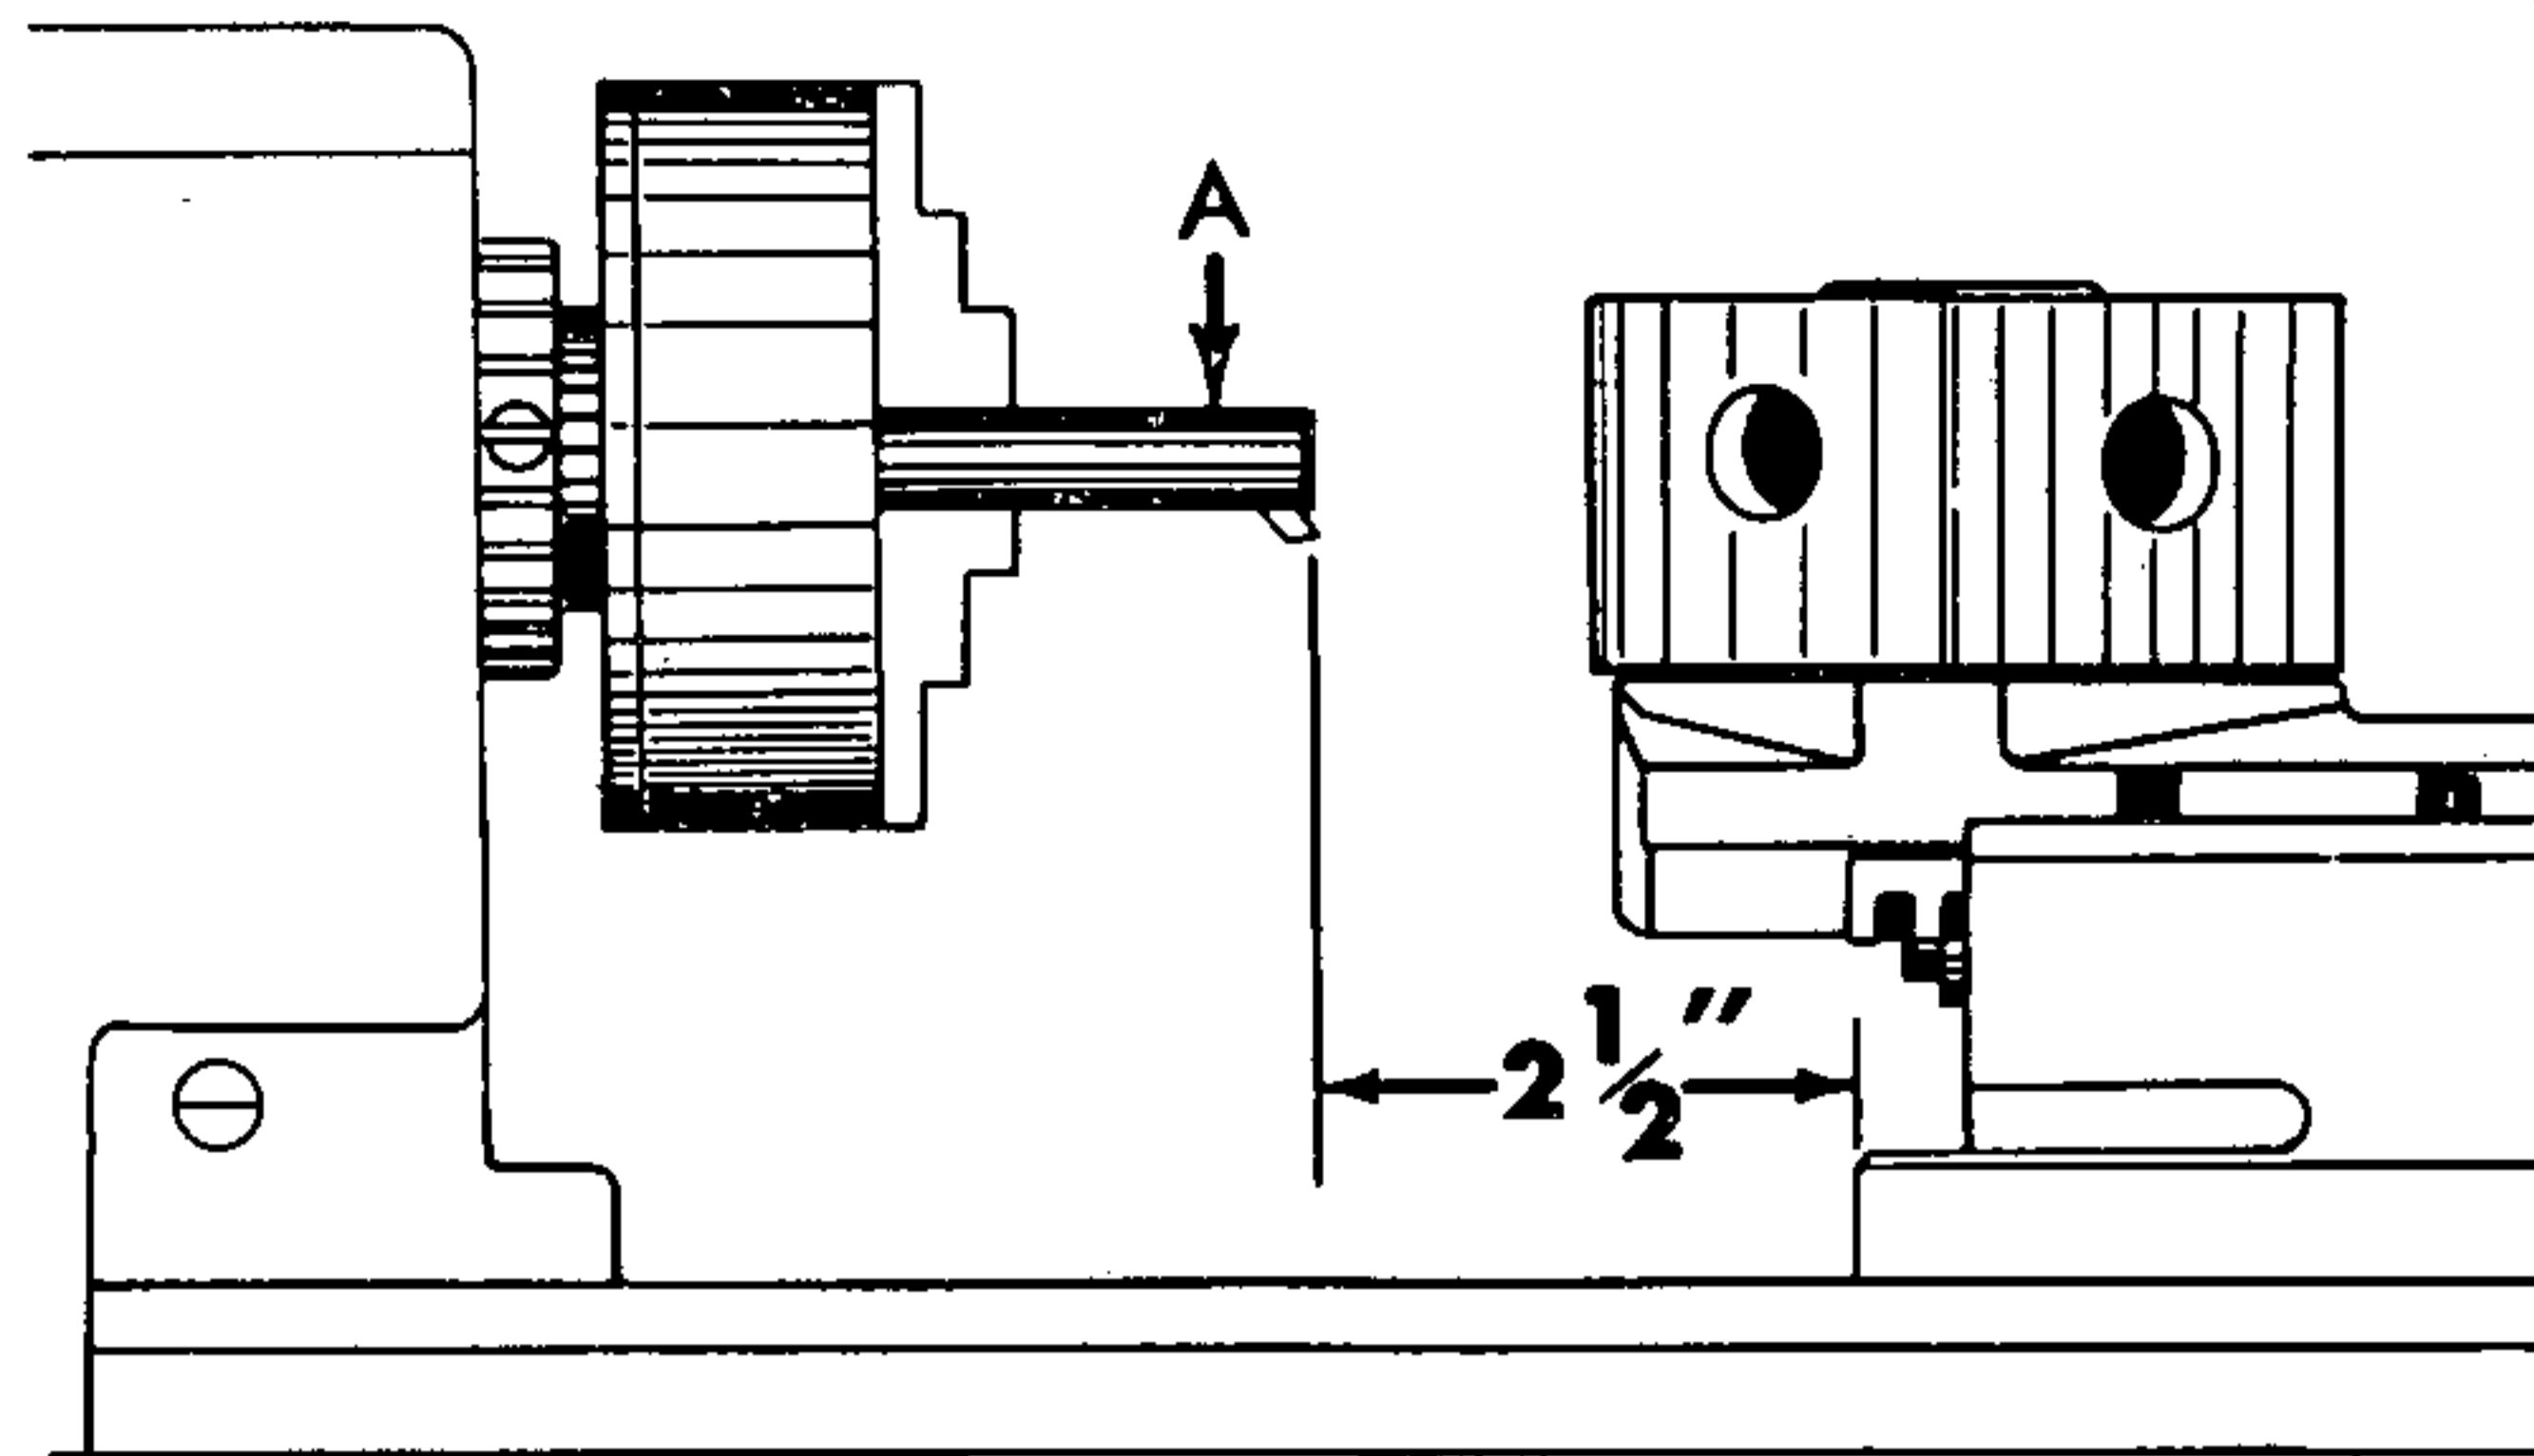

Figure 3
5. Move the turret forward on the lathe bed until the distance between the boring bar cutter (A fig. 3) and the front of the turret base is about 2 1/2". In this location, overhang is at a minimum, and turret can be indexed. Lock turret to lathe bed by tightening clamp plates. (See 8, page 1).